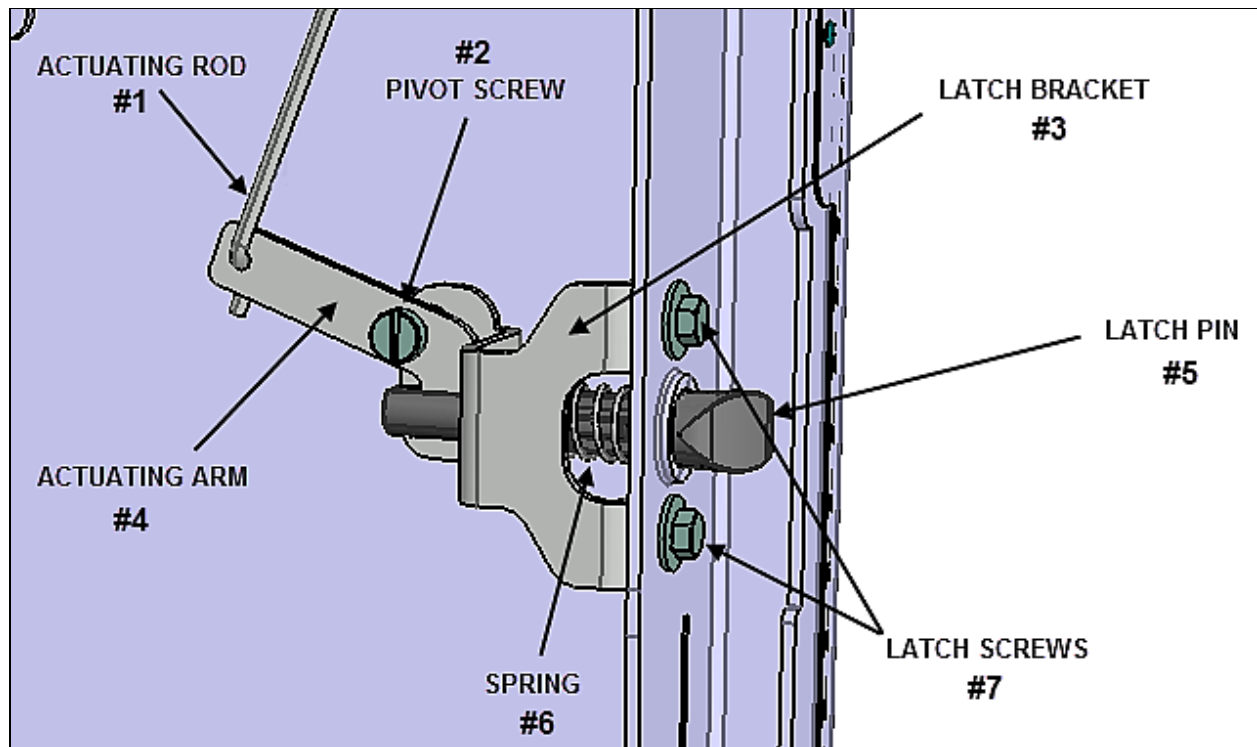
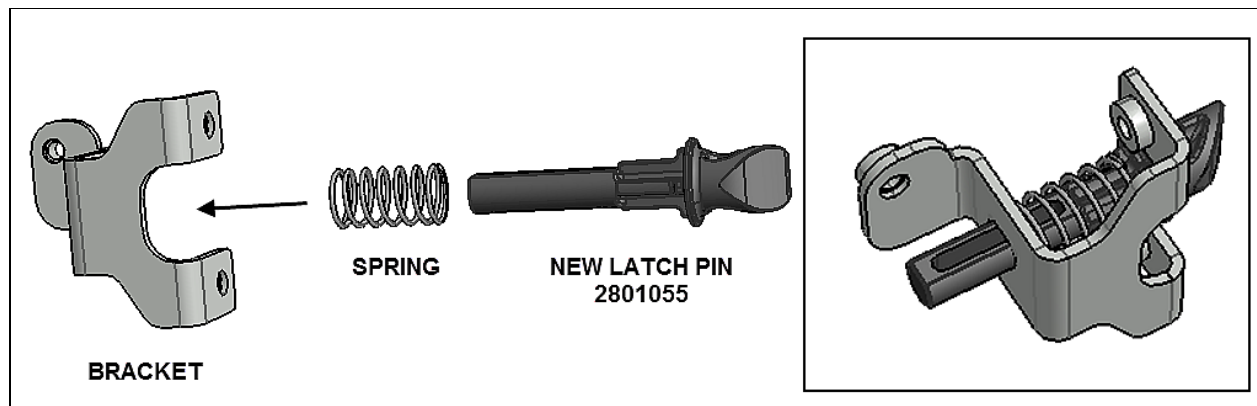

FIG.16 COMPRESSOR DOOR LATCH COMPONENTS
FIG.17 NEW LATCH PIN IN BRACKET
16. Inspect and replace as required any worn or broken compressor door latch pin. To replace latch pin, refer to Fig.16 & Fig.17 below and proceed as follow: